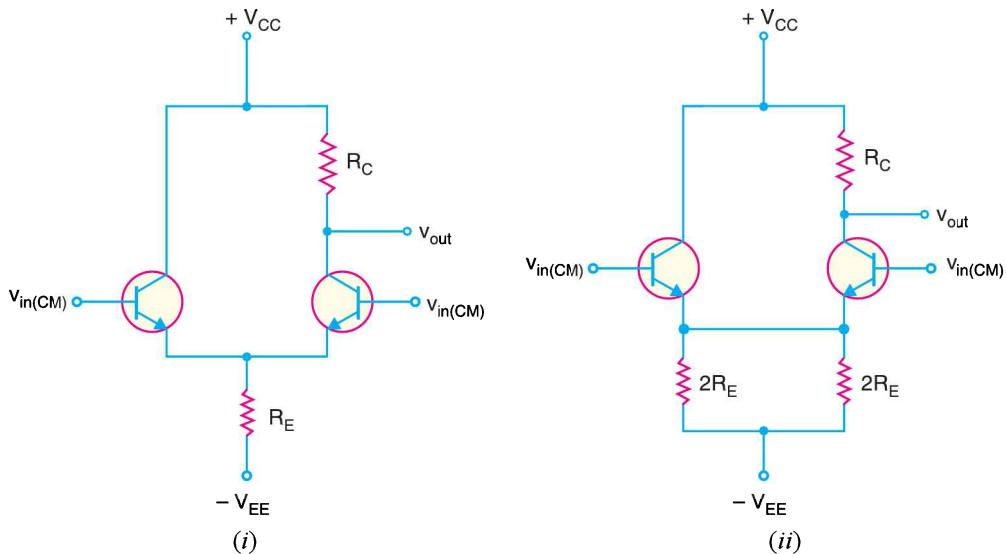
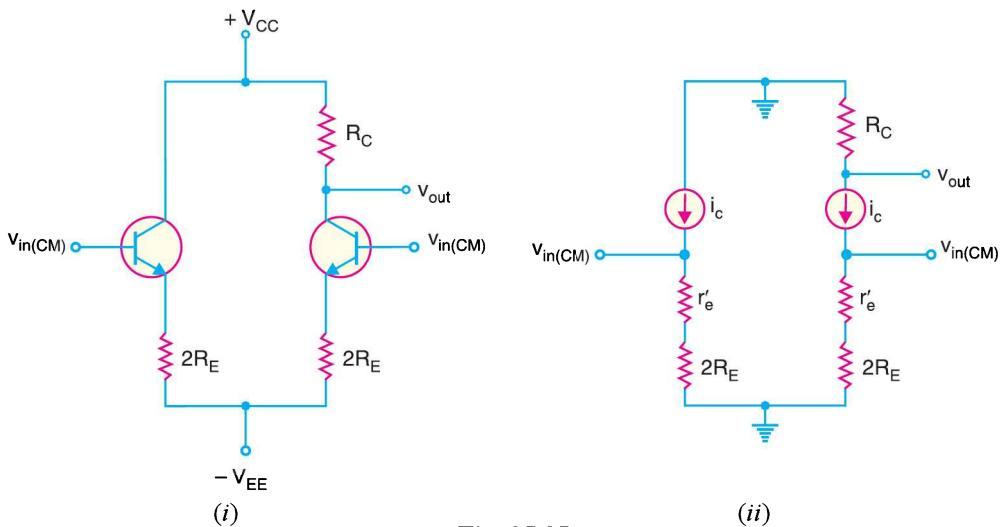

Fig. 25.34
Fig. 25.35
The common-mode signals are equal in amplitude and have the same phase. Fig. 25.34(i) shows the common-mode operation of a differential amplifier (DA). Note that the same input voltage, $v_{in(CM)}$ is being applied to each base. Ideally, there is no a.c. output voltage with a common-mode input signal. It is because a differential amplifier is designed to respond to *the difference between two input signals*. If there is no difference between the inputs, the output of DA is zero. In practice, the two halves of the differential amplifier are never completely balanced and there is a very small a.c. output voltage for the common-mode signal.
The circuit shown in Fig. 25.34(i) can be redrawn as shown in Fig. 25.34(ii). In this equivalent circuit, the two parallel resistances of $2R_E$ produce an equivalent resistance of R_E . Therefore, this equivalent circuit will not affect the output voltage. Assuming identical transistors, the two emitter currents will be equal and produce the same voltage across emitter resistors. Therefore, there is no current through the wire between the emitters. We can remove this wire and the circuit becomes as shown in Fig. 25.35 (i).
A.C. equivalent circuit. To get the a.c. equivalent circuit, we can reduce both supply voltages to zero i.e., we ground each supply point. Replacing the transistors by their a.c. equivalent circuits, we get a.c. equivalent circuit of differential amplifier for common-mode operation as shown in Fig. 25.35 (ii). We can derive the voltage gain of an *unbypassed CE circuit. Here we will use $2R_E$ in place of R_E .